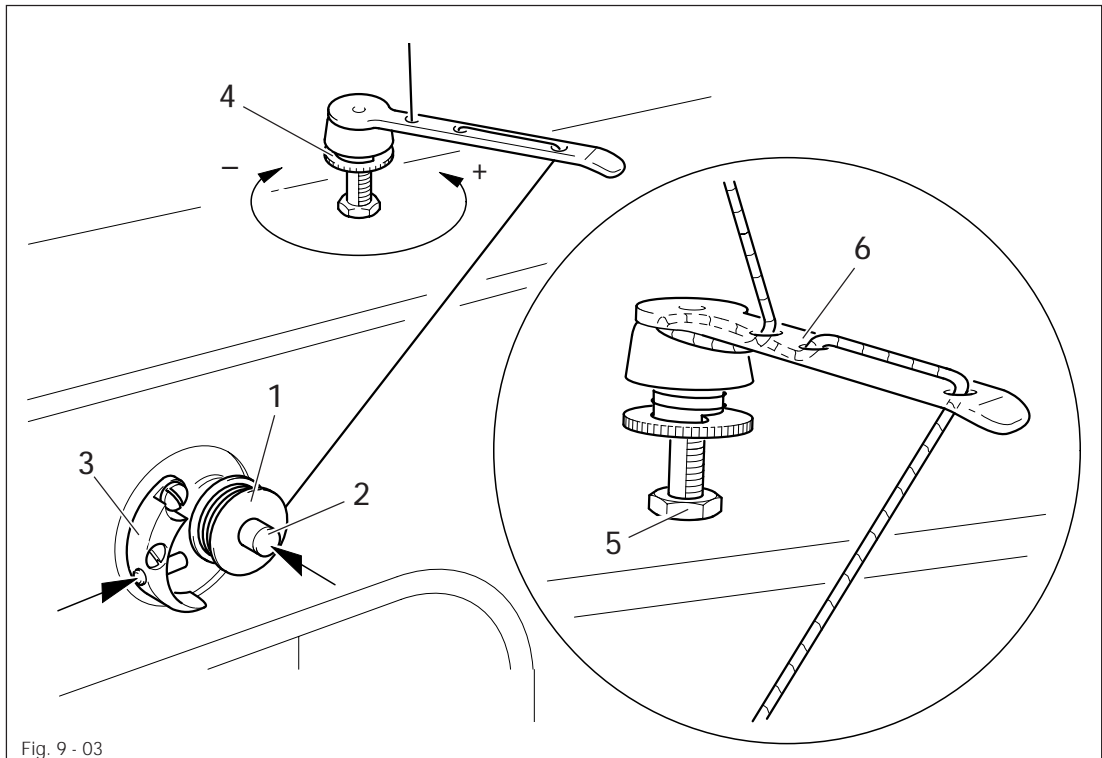

Fig. 9 - 03
- Thread the bobbin as shown in Fig. 9 - 03 and wind it clockwise around bobbin 1 a few times.